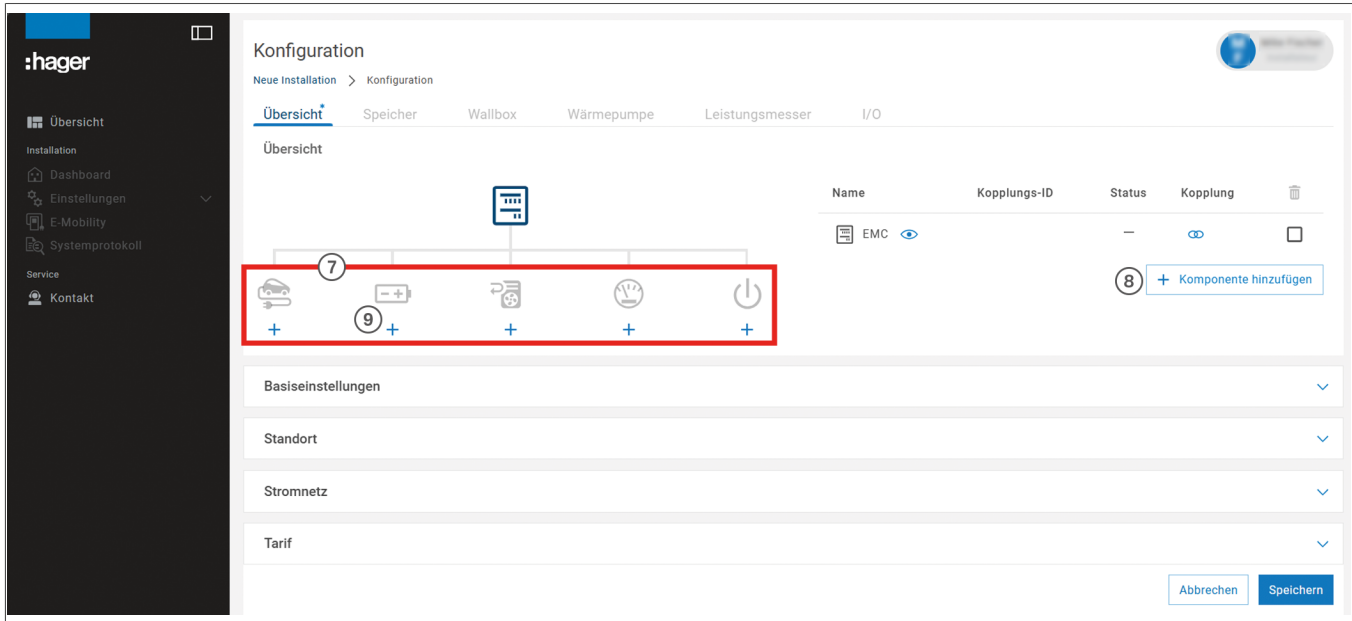

Fig. 39: Adding components (example of a newly created system)
- Before switching on the device, ensure that no error message is displayed on the device or in the app under **Properties > Advanced settings** (Fig. 39) (see Configuration).